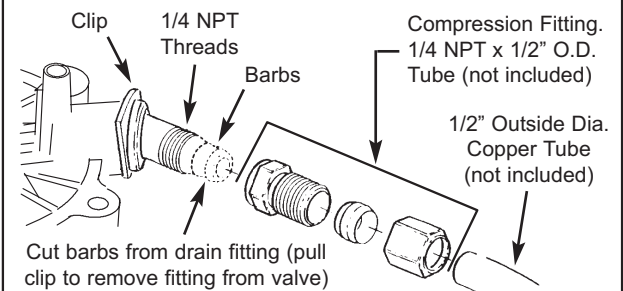

FIG. 6
The house cold water pipe (metal only) is often used as a ground for the house electrical system. The 3-valve bypass type of installation, shown in Figure 6, will maintain ground continuity. If you use the plastic bypass, continuity is broken. To restore the ground, do either step **4a** or **4b** following.
- a. Take a length of 1/2" inside diameter hose and attach to the valve drain fitting, securing it with a hose clamp (See Figure 6 on page 8).
- b. Locate the other end of the hose at a suitable drain point (floor drain, sump, laundry tub, etc.). Check and comply with local codes. Refer to Figure 6 on page 8 if codes require a rigid pipe drain run.